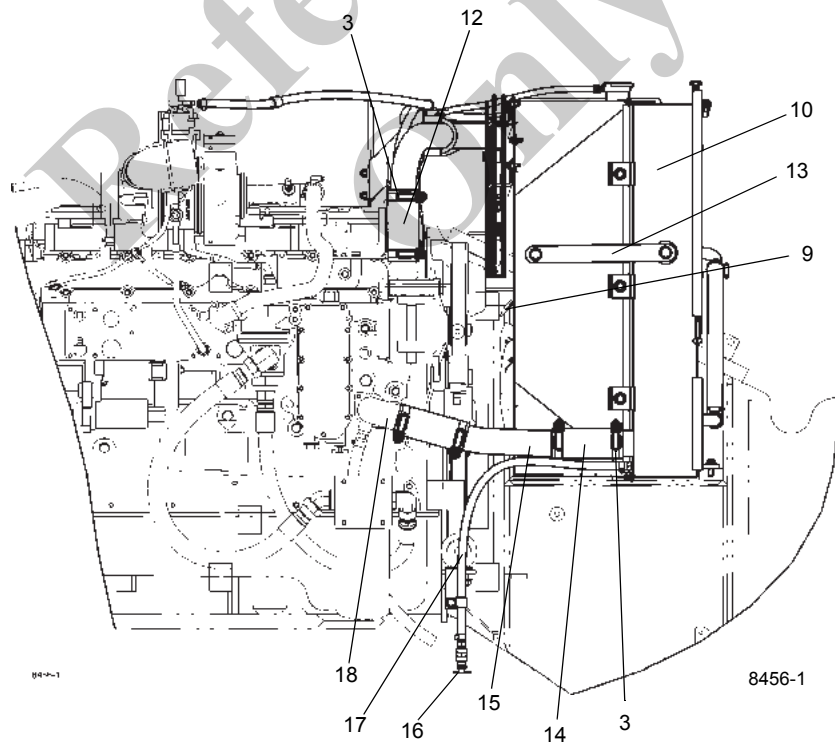

FIGURE 7-16
2. Drain Plugs - The water jacket of each engine could have one or more drain plugs (see Figure 7-16). These should receive seasonal care and be kept free of rust and scale.